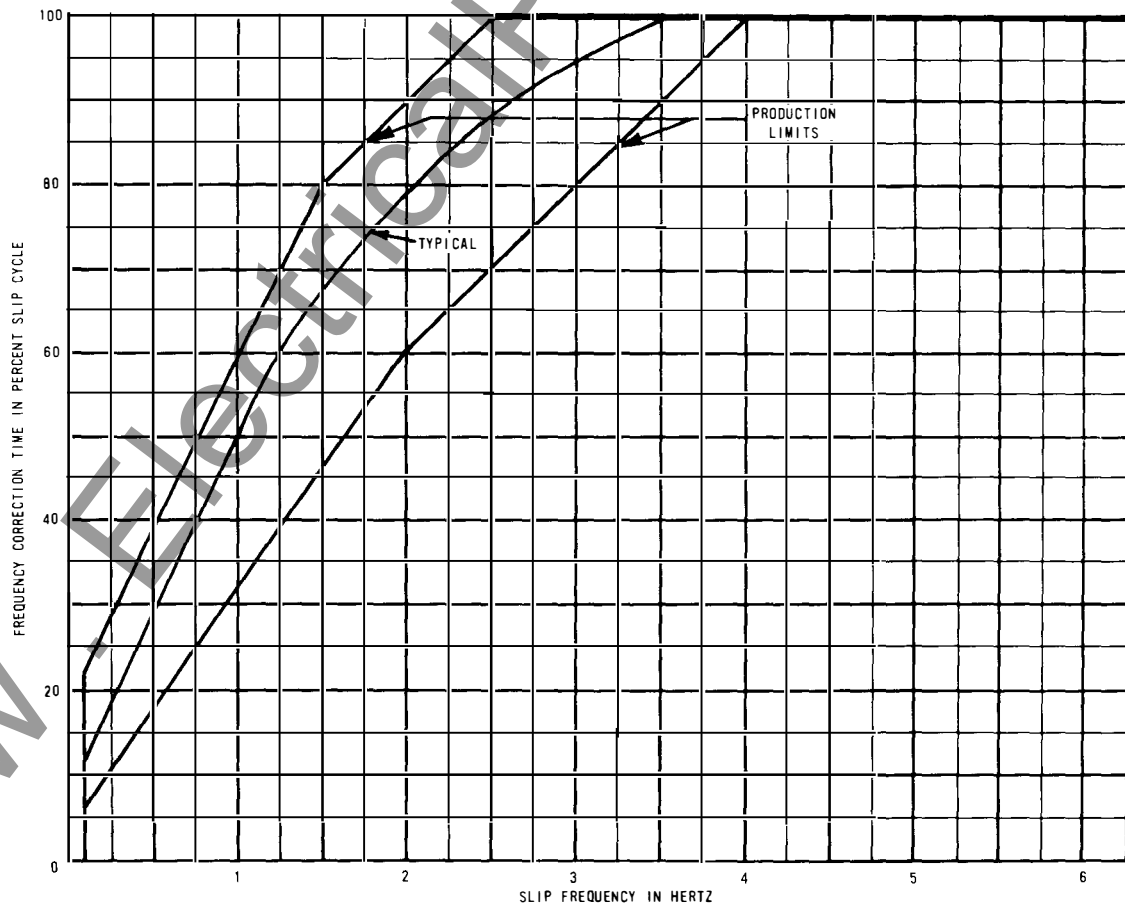

FIGURE 2: TYPICAL FREQUENCY CORRECTION "ON" TIME
- **FREQUENCY CORRECTION "ON" TIME:** See Figure 2.